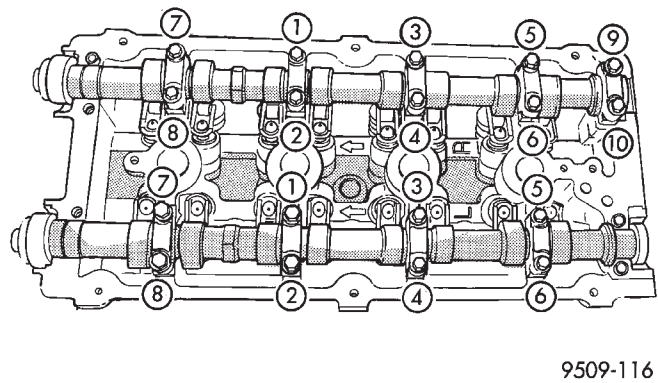

Fig. 30 Camshaft Bearing Cap Tightening Sequence
- (1) Remove camshaft retaining caps and lubricate bearing journals. Install cam followers and camshafts with clean oil. Install right and left camshaft bearing caps #2 thru #5 and right #6. Tighten M6 fasteners to 12 N·m (105 in. lbs.) in sequence shown in (Fig. 30).